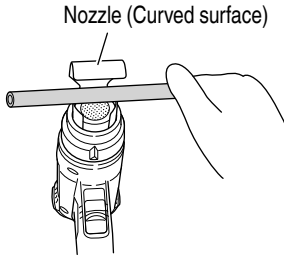

Fig. 16
- Forming resin pipes (Fig. 16)